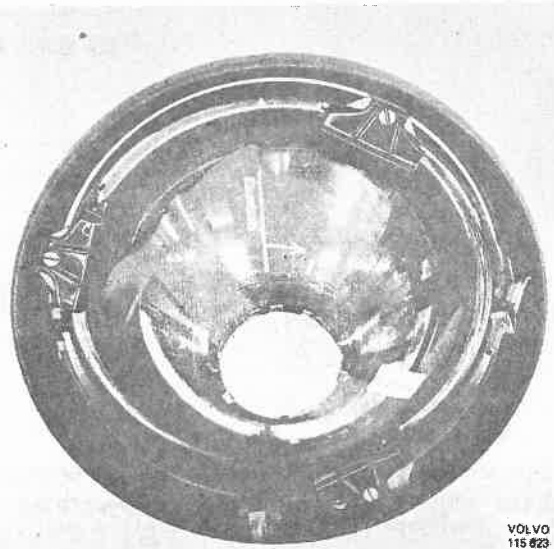

Fig. 35-4. Insert screws and washers
5. Remove the screws and washers retaining the insert, Fig. 35-4.
8. Place the bulb holder properly in position in relation to the insert, Fig. 35-4. The marking on the holder should be opposite the marking "Einsetzen".